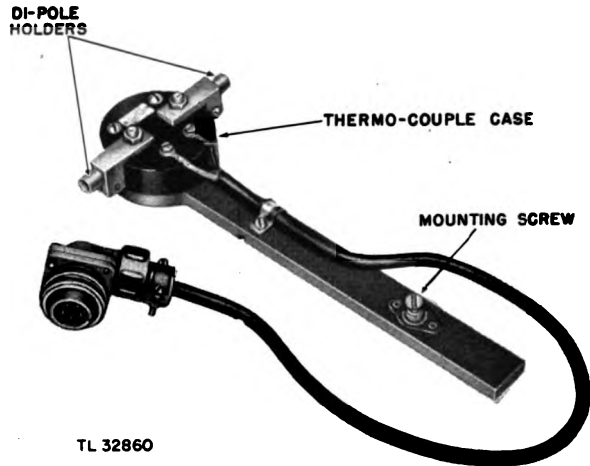

Figure 17. Thermocouple.
k. Obtain the thermocouple dipole assembly (fig. 17) from crate No. 3 and install it, together with its supporting bracket, on the rib of the para-